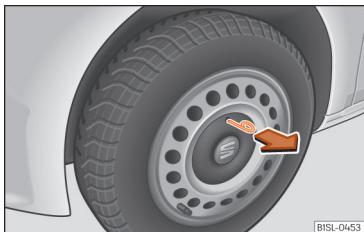

Fig. 51 Remove the hubcap of the steel wheel trim
- To remove, take the vehicle tool kit wire hook and attach it to the edge of the wheel trim » **Fig. 51**.